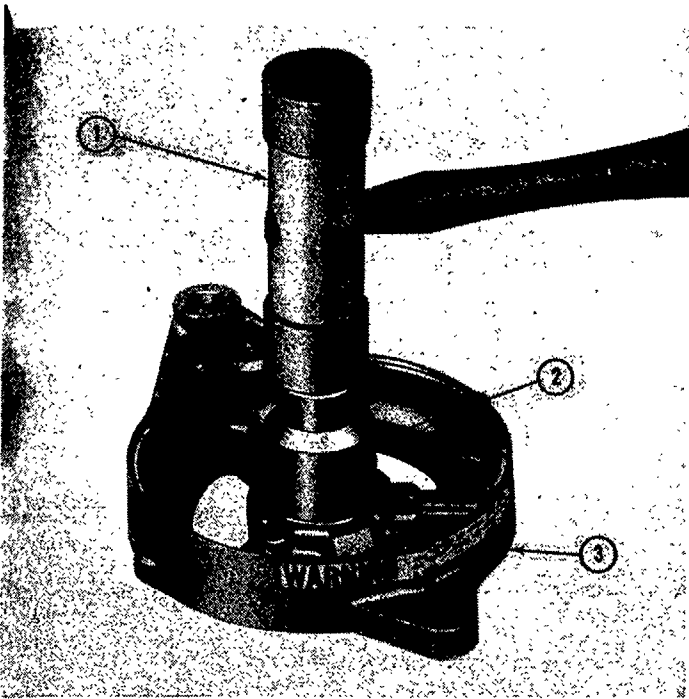

Figure 53
5. Tap the bearing into the housing using a 1-1/8 inch (28.6 mm.) socket or a driver tool that exerts pressure on the outer race only. See Figure 53. Apply only sufficient pressure to seat the bearing against the bottom of the cavity.